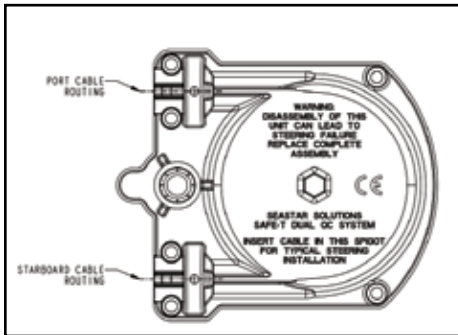

Figure 2.
STEP 1. Remove both pins from the helm's cable entry spigots.. **DO NOT REMOVE THE TAG FROM THE PIN.** The back of the helm is marked for typical (starboard cable routing) installation. If port cable routing is desired, use opposite side spigot (see Figure 2).